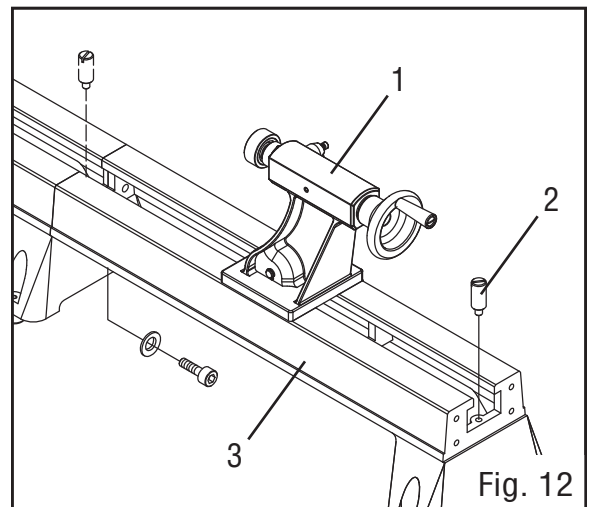

Fig. 12
1. Fit the bed extension (Fig. 12 - 3) to the bed using four socket head screws and four flat washers.
2. Remove the end stop screw (Fig. 12 - 2) from the bed and assemble it onto the bed extension.
3. Make sure the tail stock (Fig. 12 - 1) slides freely across the connection point.